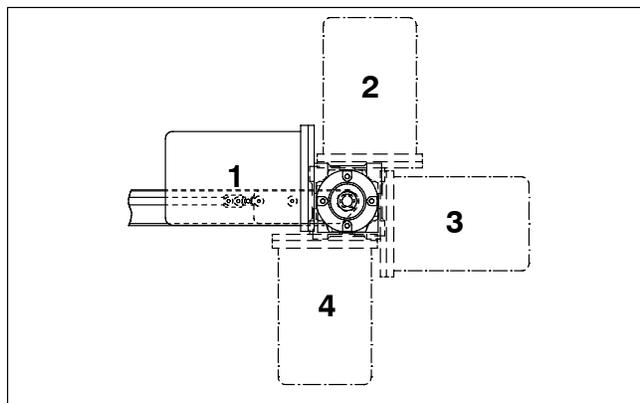

Figure 3
NOTE: Gearmotor may be operated in positions 1, 2, 3 or 4 (Figure 3).
2. If required, change gearmotor position by removing four (4) screws (I of Figure 4). Rotate gearmotor to other position (Figure 3) and replace screws (I). Tighten to 100 in-lb (12 N-m).